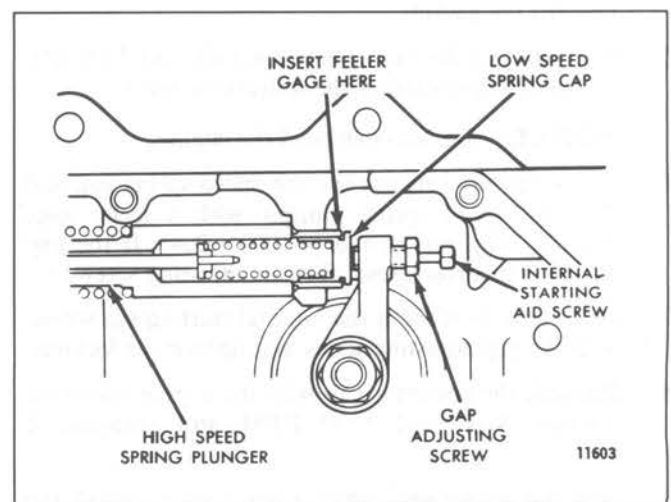

Fig. 3 - Governor Gap Adjustment
6. Check the gap between the low speed spring cap and the high speed spring plunger with a feeler gage (Fig. 3). The gap should be .002"–.004". If the gap setting is incorrect, reset the gap adjusting screw.